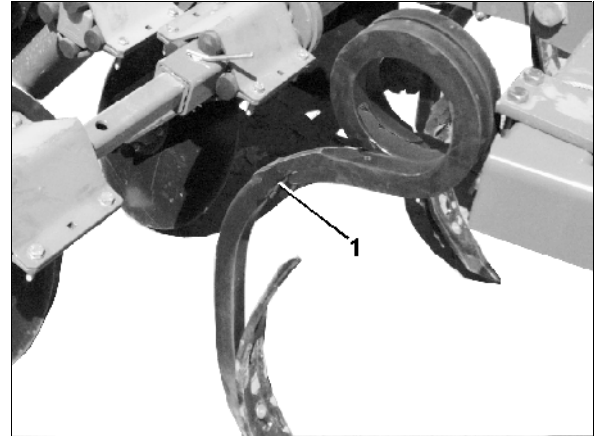

Fig. 11
- **Square steel tines (Fig. 11/1)**